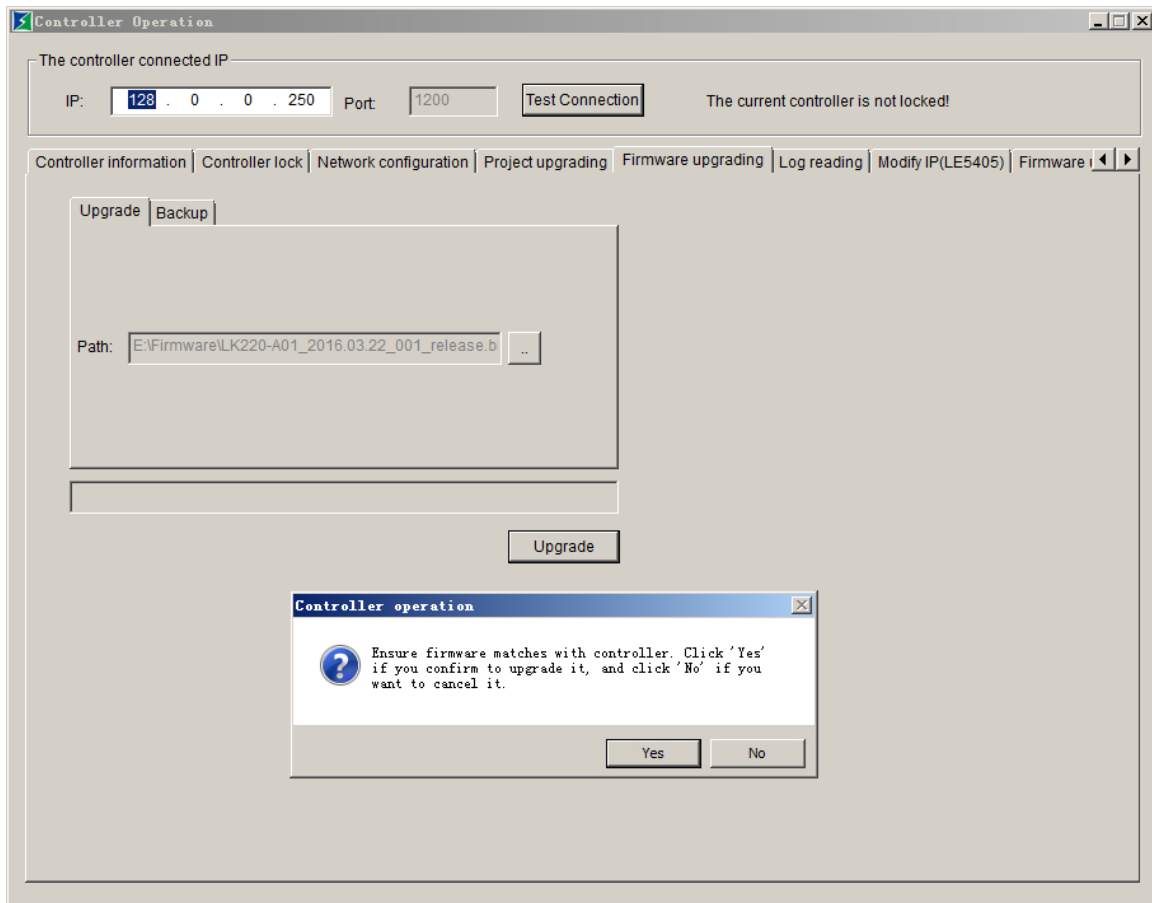

Figure 5-10 Firmware Upgrading Tools for AutoThink
Step 2. Open the dialog **Controller operation**, as shown in Figure 5-10. In the [Firmware Upgrading] tab, click  in the Path field to select the .bin file of controller firmware, click **Upgrade** to pop up a prompt box of confirming Update, click **YES**, with the firmware file uploaded to the controller.